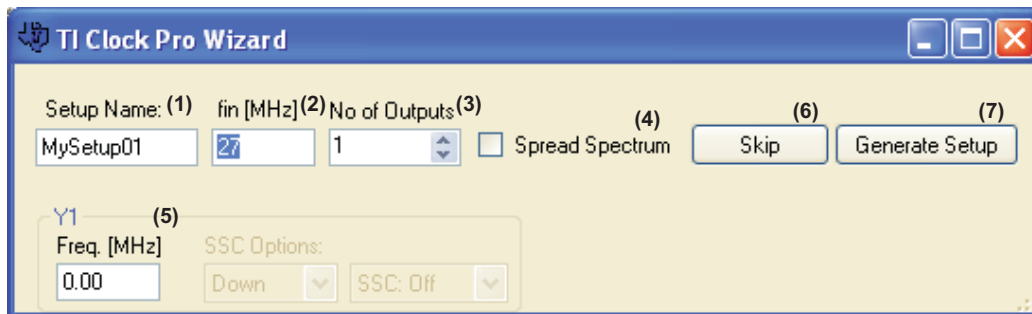
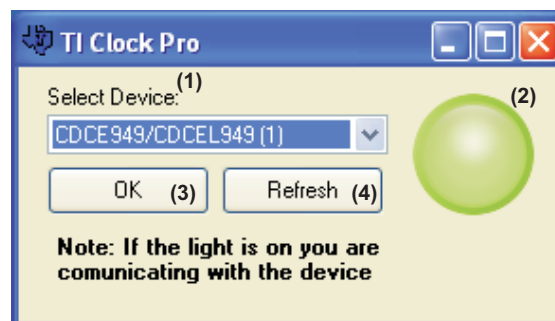
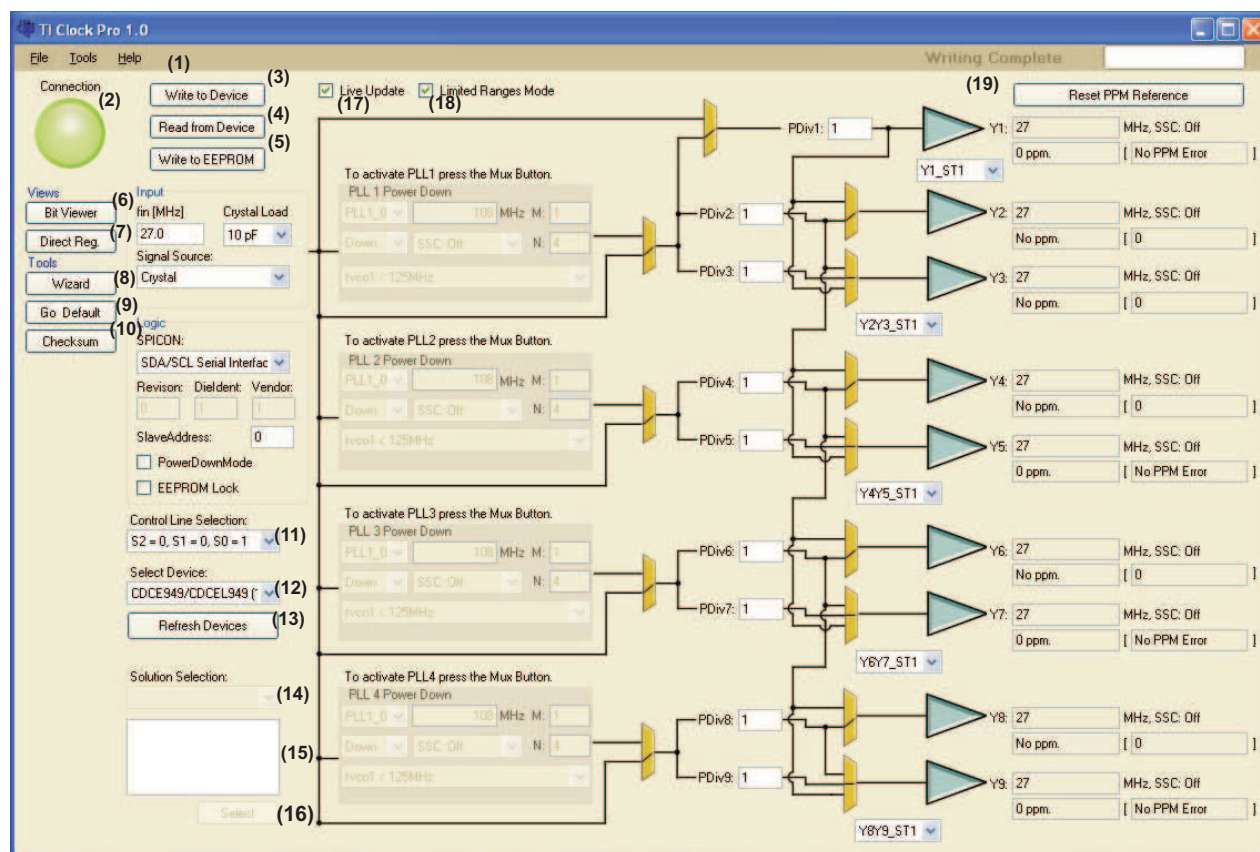
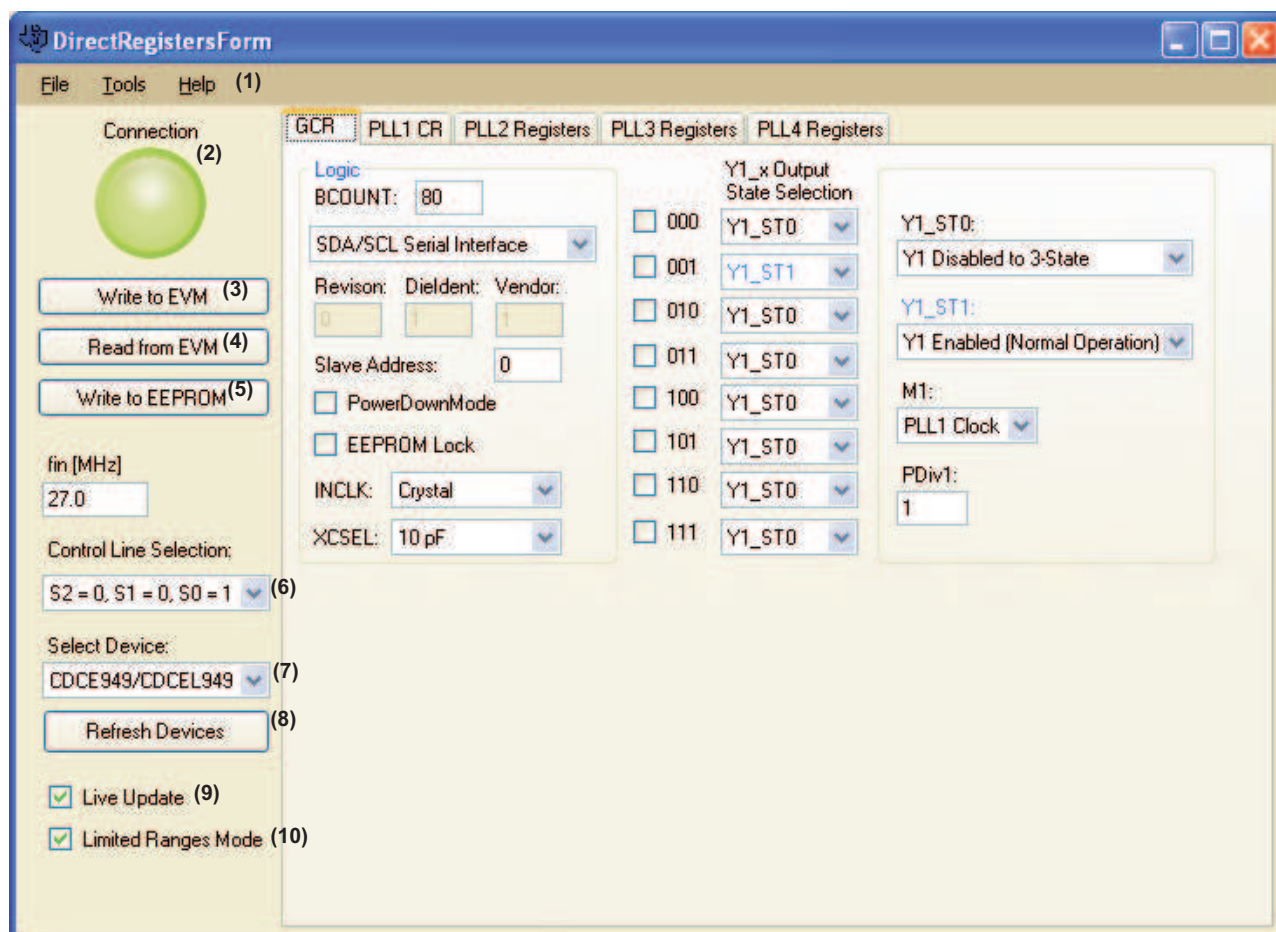

Figure 5. TI ClockPro™ Start Window
Figure 6. TI ClockPro™ Devices Search Window
Figure 8. TI Clock Pro Main View
Figure 9. TI ClockPro™ Direct Register View
After the loading screen, the start window is shown (Figure 5). This initial window called TI ClockPro™ Wizard recommends devices based on the frequencies and conditions required by the user. It is also possible to skip this window, going directly to the Devices Search Window (Figure 6). The Devices Search Window allows the user to select the EVM to work with or go to local mode. After pressing OK, the user is directed to the Main View Window (Figure 8), that offers the capabilities of communicating with the device, creating new setups, and loading setups in the device. Under the Tools menu option, other views [Direct register view (Figure 9), the bits View (Figure 10)] and utilities [Pulling Range Tool (Figure 11) and Checksum Calculator (Figure 12)] can be accessed.
3. **No of Outputs.** Number of outputs to generate out of the input frequency introduced in (2)
6. **Skip** button directs the user to device selection window (Figure 6)
3. **OK** button directs to the Main View (Figure 8), or if Generation Setup button was pressed on the
1. **Solution Selection** selects the solution to view when pressing the button View Setup (3). Many different solutions can be generated by different combinations of the devices and the input stage.
2. **Device Selection** chooses the initial setup to load in the Main View (Figure 8).
3. **View Setup** loads the selected device for the selected solution in the Main View (Figure 8).
4. **Skip** button skips loading a solution showing the Main View (Figure 8).
5. **Back** button goes back to the Wizard View (Figure 5).
2. The Connection indicator is Green when the device selected in (12) is a device in a performance EVM. When it is black, the device selected in (12) is working in local mode.
3. If connected, the Write to Device button writes all the displayed contents in the Main View (Figure 8) and the Direct Register View (Figure 9) in the device's control register.
4. If connected, the Read from Device button reads all the contents of the device's control register in the Main View (Figure 8) and in the Direct Register View (Figure 9).
5. If connected, the Write to EEPROM button writes all the displayed contents in the Main View (Figure 8) and in the Direct Register View (Figure 9) in the device's EEPROM.
7. Direct Reg. button. When it is pressed, it shows the Direct Register View (Figure 9).
8. Wizard button. When it is pressed, it shows the Wizard View (Figure 5).
9. Go default button. When it is pressed, it loads the default setup as per device selected in (12).
14. Solution selection shows the solution generated by the Wizard View (Figure 5).
15. List of devices shows those devices that are part of the solution selected in (14).
16. Select button. When it is pressed, the selected device in (15) are loaded in the program.
17. Life update. When checked and the device selected, all changes in the setup (Wizard View (Figure 8) or Direct Register View (Figure 9) are automatically written to the control register.
1. Main Menu bar with three menu options as per Main View Menu Bar (Figure 8)
2. The Connection indicator is green when the device selected in (7) is a device in a performance EVM. When black, the device selected in (7) is working in local mode.
3. If connected, the Write to Device button writes all the displayed contents in the Main View (Figure 8) and in the Direct Register View (Figure 9) in the device's control register.
6. Control Line Selection. This shows the control pins settings linked to the active setup. This control does not change the control pins voltages in the performance EVM. In order to ensure that the active setup in the performance EVM is the same as the setup displayed in this view, ensure that (6) and the jumpers in the EVM are set to the same values.
9. Live update. When checked and the device is selected, all changes in the setup (Wizard View, Figure 8, or Direct Register View, Figure 9, are automatically written to the control register.